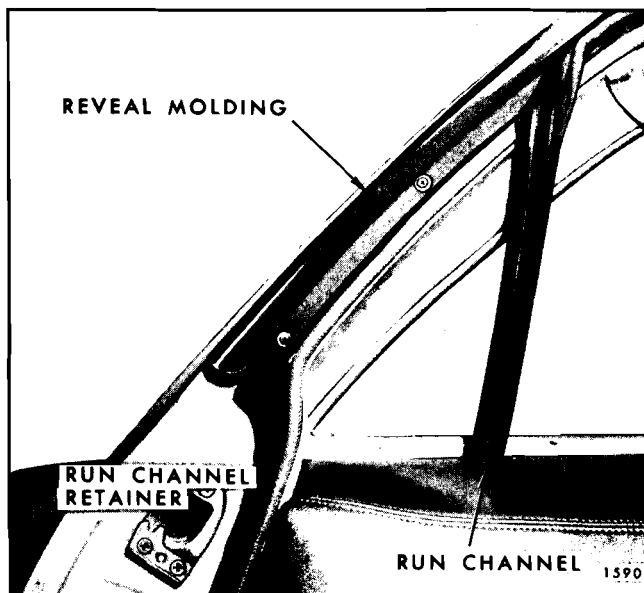

Fig. 9-54—Tail Gate Upper Glass Run Channel Retention
2. Once run channel has been removed, the retainer attaching screws are exposed. (See Fig. 9-54) The retainer can be adjusted by loosening attaching screws, shifting retainer to desired position and tightening screws. If retainer is removed, seal retainer with medium bodied sealer prior to installation.